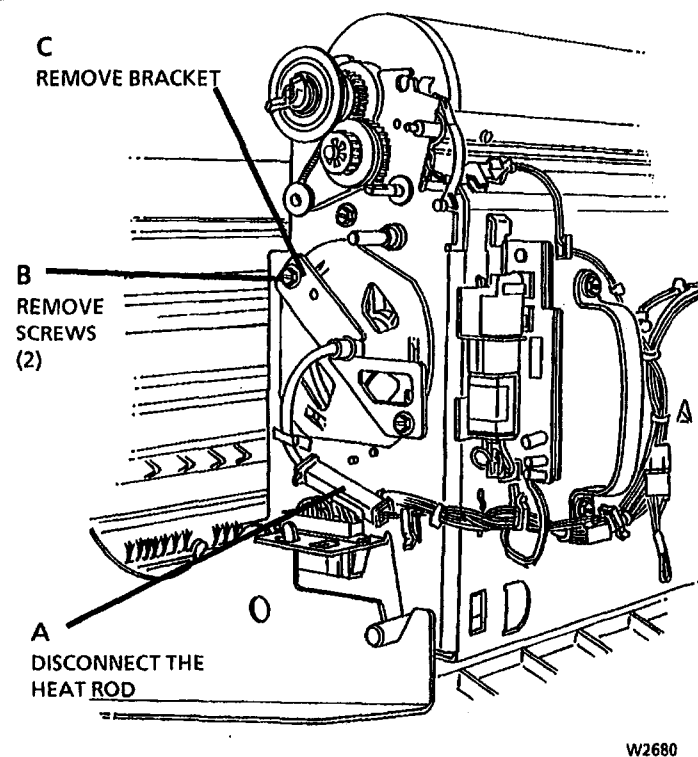

Figure 3. Preparing to Remove the Heat Rod
4. (Figure 3): Prepare to remove the Heat Rod.